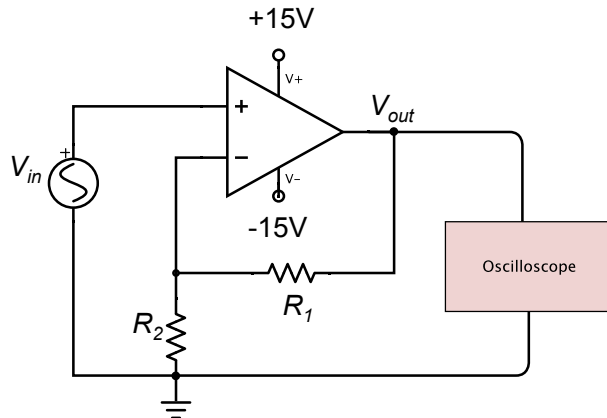

Figure 1 - Circuit diagram for the non-inverting amplifier.
In this laboratory exercise, you will use a bread board to construct a non-inverting amplifier using an LM301 integrated circuit (IC). The primary purpose of this lab is to teach you how to implement an IC chip in a circuit. You will construct the op-amp circuit shown in Figure 1 using $R_2 = 1 \text{ k}\Omega$. You will then measure V_{out} as a function of the other resistor R_1 using the values in Table 1. The gain of the non-inverting amplifier is given by the equation
1. Copy the circuit diagram and pinout (Figures 1 and 2) into your lab notebook.